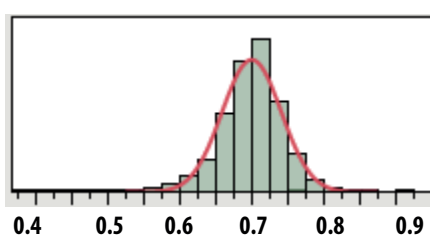

Figure 2. Idd_total at Pout=27.0dBm, Nominal = 700mA
3. Idq1= 60 mA, Idq2 = 110 mA, Idq3 = 180.0 mA, I_Vddbias = 16.0 mA at Vdd1,2,3=VddBias=5.0 V. Idq1/2/3 are adjusted by voltages to CMOS-compatible control pins Vc1/2/3, respectively. These typical bias currents were obtained with Vc1/2/3 voltages in Figure 2. Adjustment of these currents enable optimum bias conditions to be achieved for best linearity and efficiency for a given modulation type.
MGA-43040 typical over-temperature performance at $V_{c1}=2.0\text{ V}$, $V_{c2}=1.8\text{ V}$, $V_{c3}=1.8\text{ V}$ as shown in Figure 2, unless otherwise stated
MGA-43040 typical over-temperature performance at $V_{c1}=2.0\text{ V}$, $V_{c2}=1.8\text{ V}$, $V_{c3}=1.8\text{ V}$ as shown in Figure 2, unless otherwise stated (Cont.)
MGA-43040 typical over-temperature performance at $V_{C1}=2.0\text{ V}$, $V_{C2}=1.8\text{ V}$, $V_{C3}=1.8\text{ V}$ as shown in Figure 2, unless otherwise stated (Cont.)